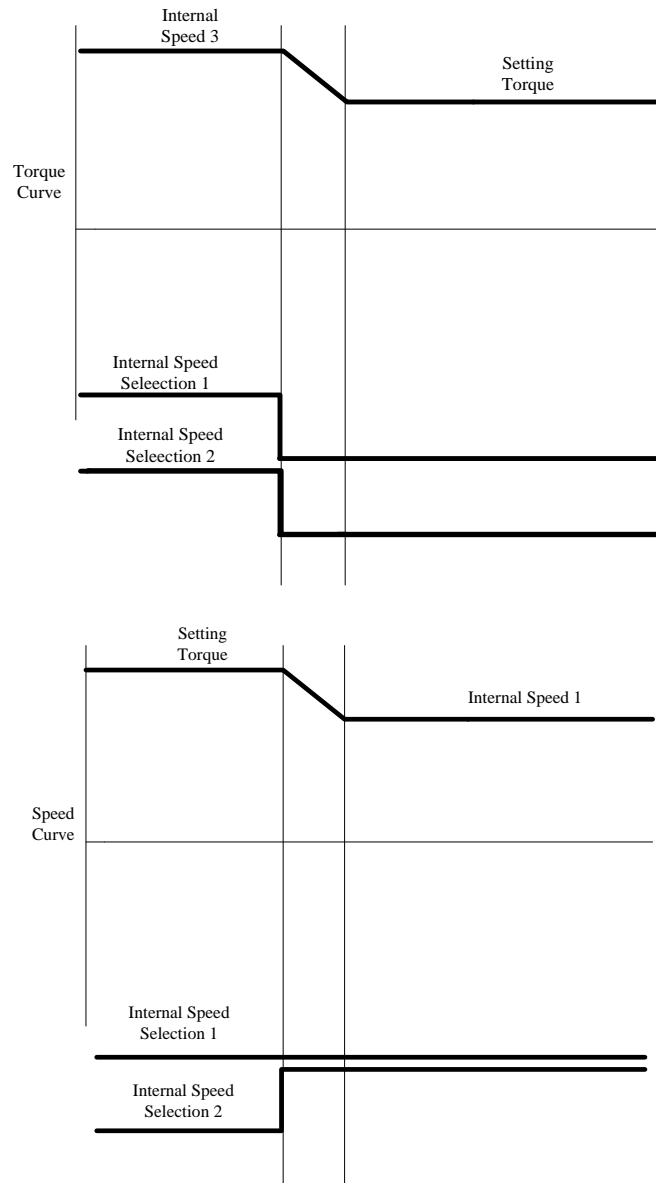

Fig 6.5.9 Speed mode and torque mode switching sequence diagram
(1) Internal register speed and torque switching mode, internal register speed and external analog torque switching mode show as figure 6.5.9, after servo is enabled, servo runs as speed mode when internal speed selection signal is enabled; servo runs as torque mode when internal speed selection signal is disabled.